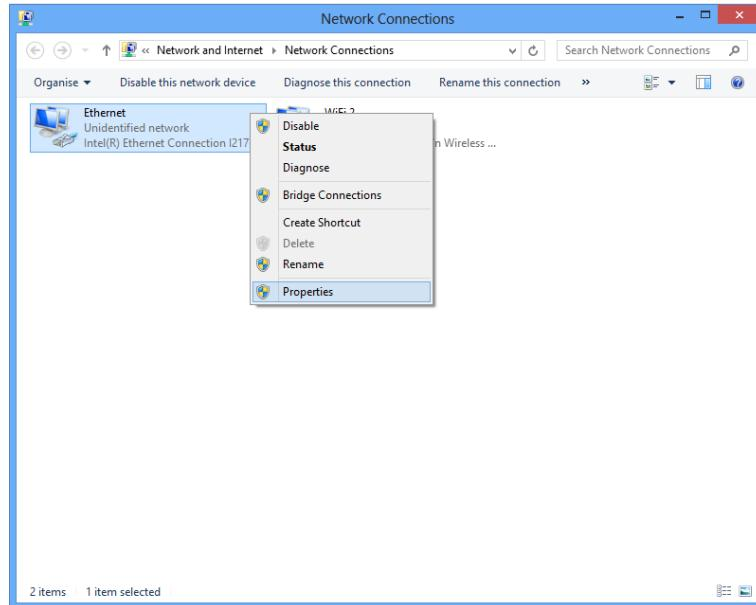

Fig. 10.3: Property window of the Ethernet network.
c. Right click on the Ethernet icon and select "Properties", as in Fig. 10.3.